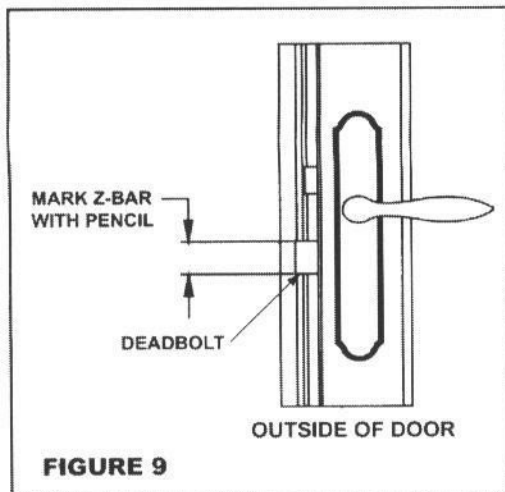

FIGURE 9
B. With the door open, extend the deadbolt fully. Carefully close door until deadbolt contacts the z-bar. With a pencil, mark the location of the top and bottom of the deadbolt onto the z-bar. **See Fig. 9.** Return the deadbolt to the fully retracted position.